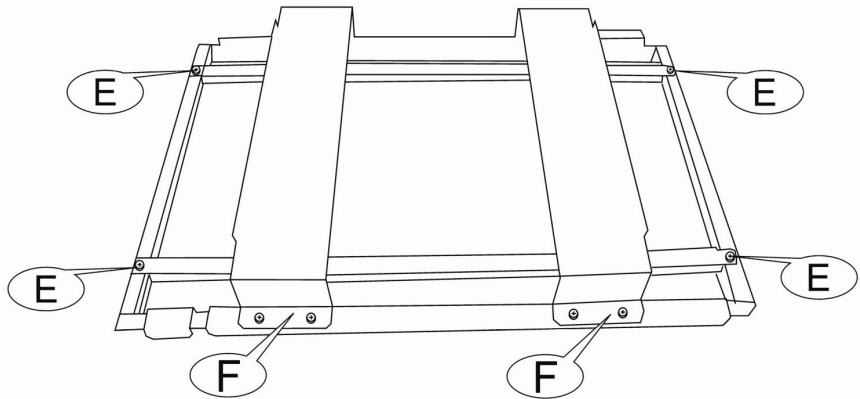

Figure-8 Upper and lateral fixation parts in the tray
- Remove fixation elements in the tray, shown in Figure-8 (E) and (F).